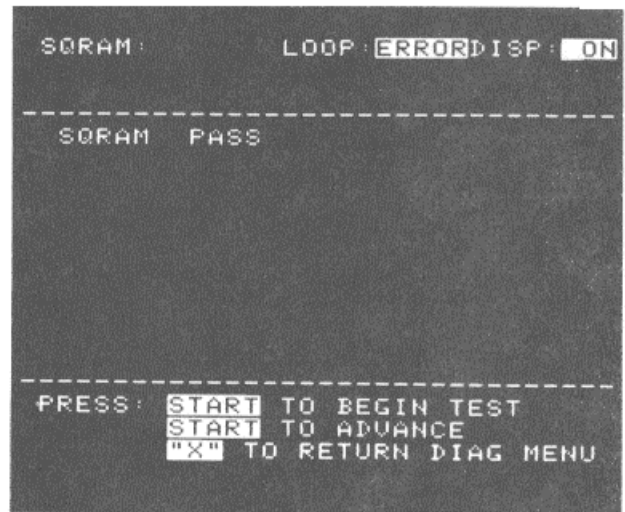

Figure 3-14. Display for trigger sequencer RAM (SGRAM) test.
**SGRAM Test.** To enter this test, press 5 while in the Diagnostics menu. This test is for the trigger sequencer RAM. Refer to the Diagnostics menu or to the trouble-shooting tree in *Section 7* for details. Figure 3-14 illustrates the SGRAM test.